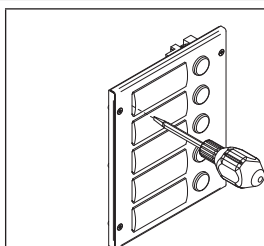
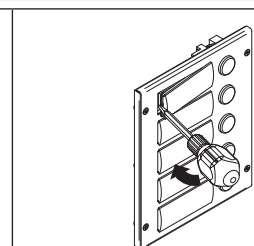

Fig. 3
Fig. 4
- Insert the screwdriver (flat side) as shown in **Fig. 3**;
- Move the screwdriver to the left as shown in **Fig. 4** to extract the card name holder;
4. A rainshield **(D)** (**Fig. 3 & 4**) can be mounted using the fixing screws **(G)** (**Fig. 4**) to conceal possible wall finishing defects and protect against rain;
**In order to prevent water ingress we highly recommend using a silicon sealant between the wall and the back box and between the wall and the rainshield **(D)** (**Fig.3**);**